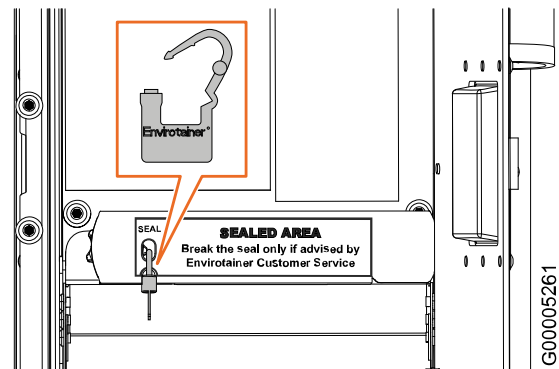

Fig. 26
2. Remove the seal from the bracket on the adapter case (**Fig. 26**).